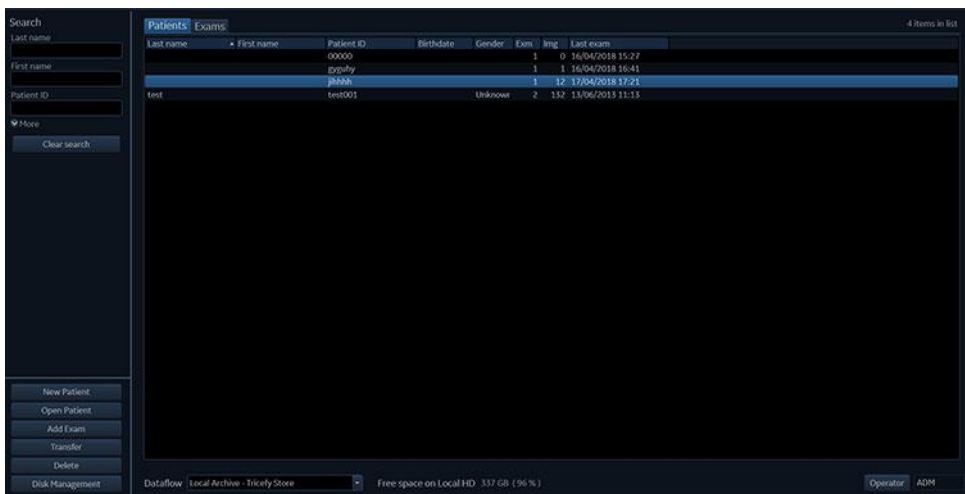

Figure 10-47. The Patients/Exams list
1. Press **Transfer** from the Patients/Exams list (Figure 10-47)